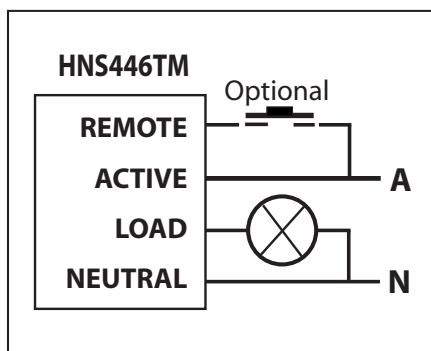

Figure 1
- Install the HNS446TM as per wiring diagram in Figure 1 or 2 below.